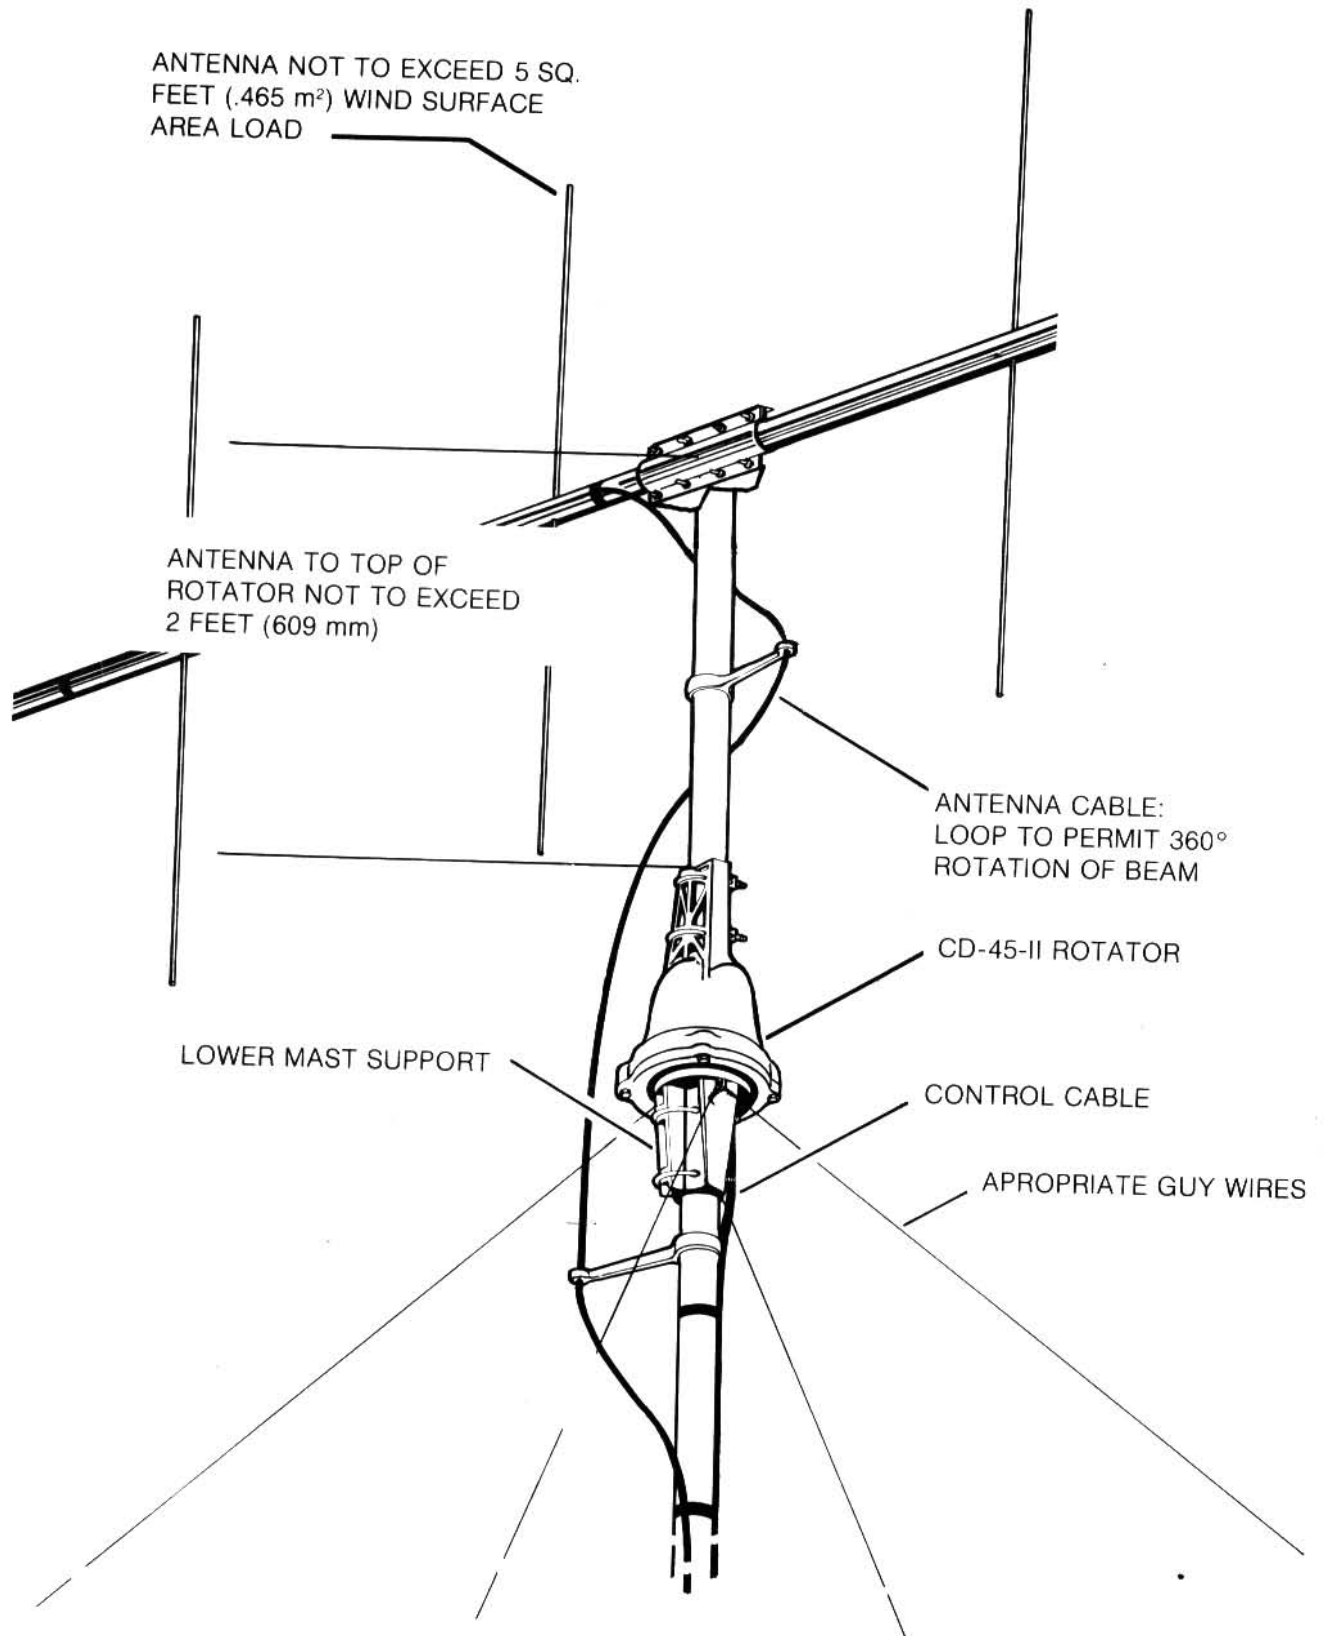

Figure 6
3. A telescoping or other type mast, as shown in Figure 6, can also be used. The lower mast support is required for this installation.
4. Connect the antenna cable to the antenna (follow manufacturer's recommendation). Make sure you have enough slack for the 360° rotation. (The antenna rotates "S" to "E" [counterclockwise] during its first turn, therefore, slack should wrap counterclockwise around the mast.) See Figure 6.